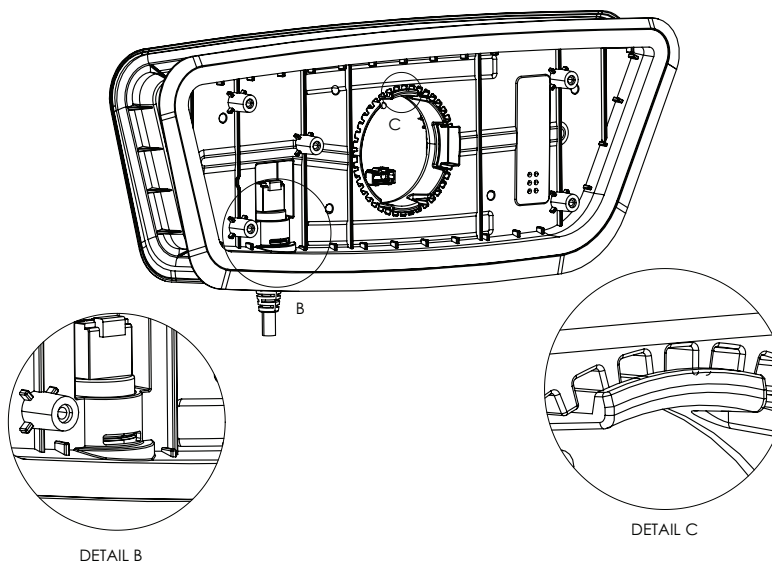

**Figure 25 – Siderail control panel assembly**
4. Using a slotted screwdriver, remove the foil (A) from the disassembly side (Figure 25). Discard the foil.
6. Using a slotted screwdriver, push down on the RJ50 cable (Figure 26, Detail B) to gain clearance to remove the PCBA (D) (Figure 25). Press on the top side and on the O-ring. A small pulling force on the cable is beneficial.